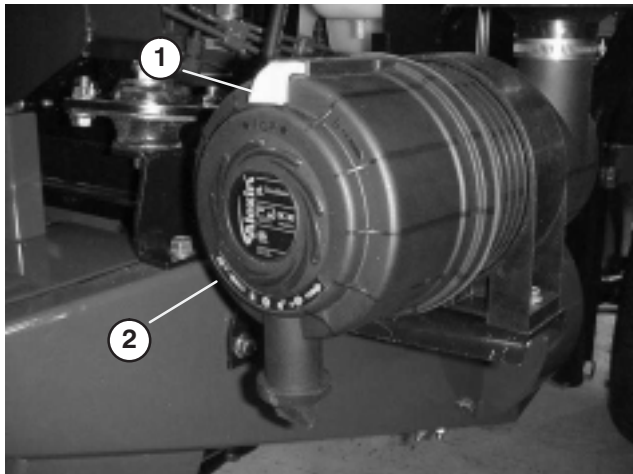

Figure 34
1. Pull latch outward and rotate air cleaner cover counter-clockwise. Remove cover from body (Fig. 34). Clean inside of air cleaner cover.